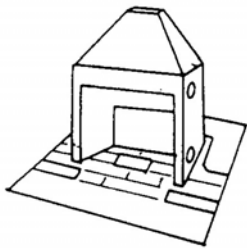

Fig. 2 Unit in position
**Step 2** Position the Heat-Circulator on the firebrick hearth. Unpack the glass wool insulation and apply around the bottom of the unit. Cover the unit with a single thickness of insulation, taking particular care at corners. A thin watery mixture of mortar brushed on the steel Heat-Circulator will aid in holding the insulation in place. At this point particular care should be given to the glass wool insulation, location of the cold air intake grille, and gauging of the masonry work, so that the rest of the installation will be made much easier. (See Figure 2)